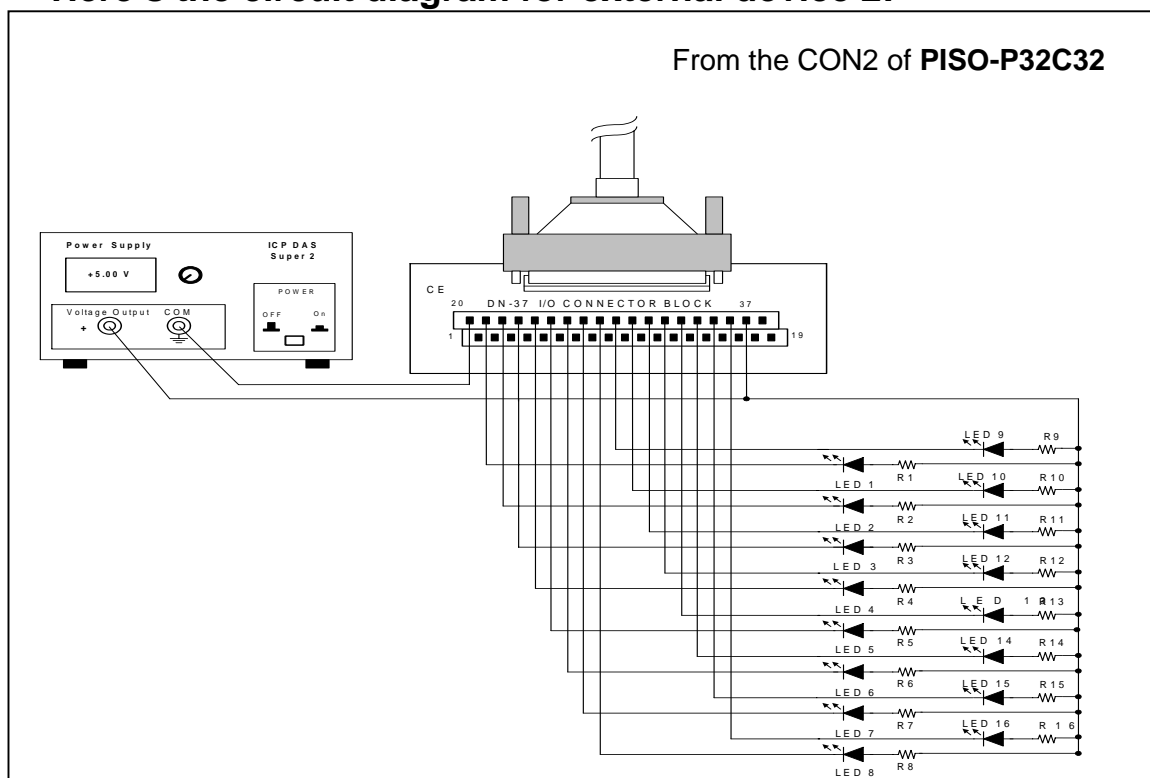

Figure 4-1-4. The circuit diagram of external device 2 for the digital outputs of PISO-P32C32
- Figure 4-1-4(PISO-P32C32) shows the circuit diagram of external device 2